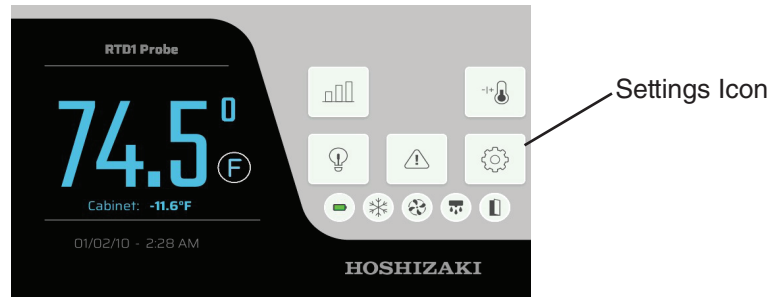

Fig. 25
1) Press the settings icon. See Fig. 25. User Settings display appears.